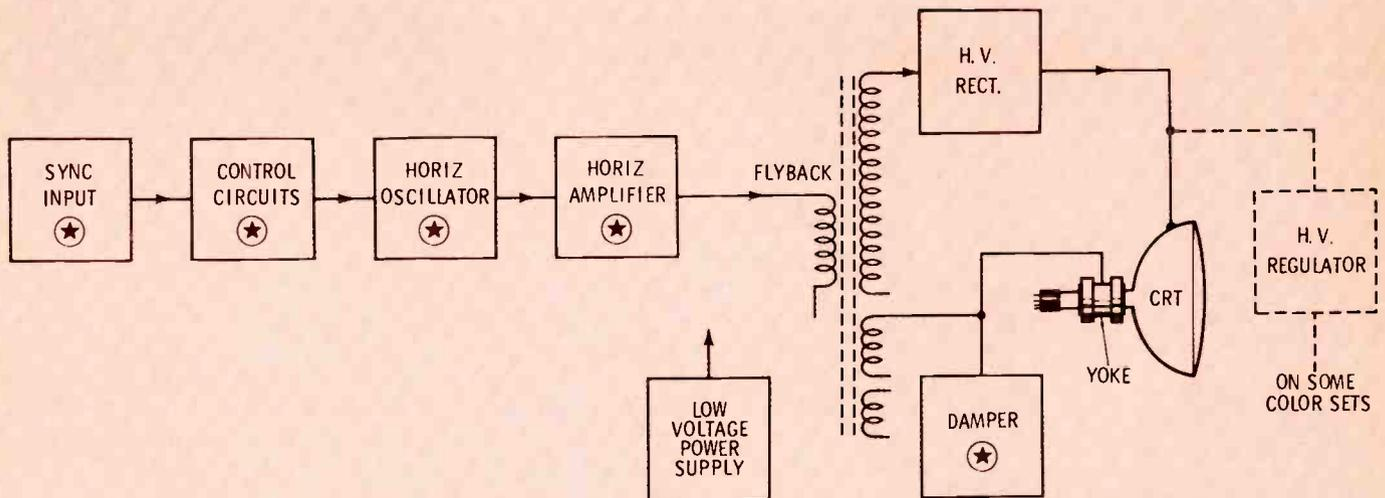

Fig. 1 Block diagram of the TV stages in which common defects can reduce or completely kill the high voltage.
Fig. 1 Graph of meter readings as tuned circuit is adjusted to, through and past resonance with applied signal frequency. Curve at B is tuning response of a trap.
The IF strip of a television set contains several tuned circuits. Each one, taken alone, is simply a peaking circuit or a trap. Each one responds sharply to the frequency it is tuned to. Their response graphs look very like the graphs in Fig. 1.
Fig. 1 is a block diagram of circuits where the enemy may be concealed. It is essential for a good commander to determine as quickly as possible where the battleground is going to be. Here is the technique:
7. If B+ is okay, look for trouble in the stages indicated by a star in Fig. 1. Obviously, there are